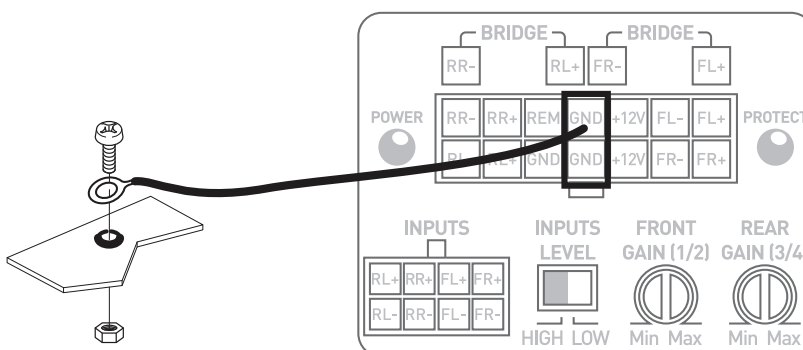

fig. 2
- 10 - Prepare the chassis ground by scraping off any traces of paint on the metal surface in order to ensure proper grounding. The grounding connections should also be as short as possible and ALWAYS be connected to metal welded to the body or the chassis of the vehicle (*fig.2*). The ground point which is generally chosen is the one connecting the negative terminal of the battery to the chassis of the vehicle.
3.3.2 – Get the negative power cable (-). This cable should be as short as possible and ideally shouldn't be any longer than 3ft (1m), to ensure a perfect connection between the amplifier and the chassis of the vehicle. The cable and wire gauge must comply with the table in section 3.1. Find a suitable grounding point, then sand it to remove any traces of paint or other coating in order to optimise the quality of the contact point. Drill a hole in the metal that you have previously sanded, making a hole the same diameter as the screw you are using, making sure that there are no fuel lines, cables or any other sensitive vehicle devices nearby. Solder the ground cable to the wiring harness supplied for your IMPULSE 4.320 amplifier and isolate using heat-shrink tubing (*fig. 2*).